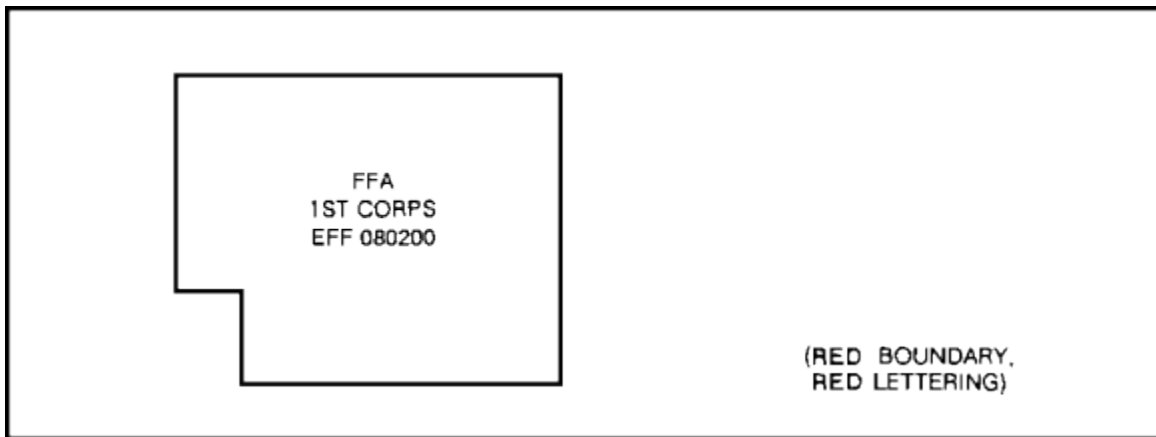

Figure 1-13. FFA graphic symbol
- Free-fire area (FFA)—area in which any weapon system can fire without additional coordination. It is normally established on identifiable terrain by division or higher headquarters. The graphic symbol for the FFA is shown in Figure 1-13.